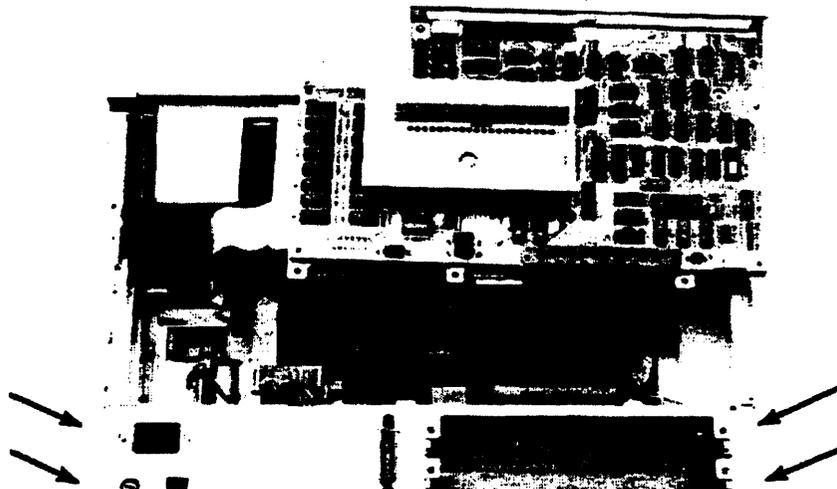

Figure 6-29b. Base Assembly Mounting Screws
- 12. Set the PCA mounting panel assembly in a secure location on top of the computer case as shown in figure 6-29b.
- 13. Remove the four flat-head screws that hold the base assembly to the side supports (see figure 6-29b).